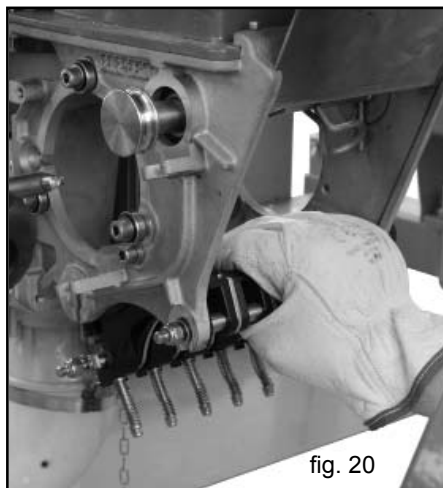

fig. 20
- 3) Remove the back part (Fig. 20) of the feeler pin unit, first, followed by the front part.